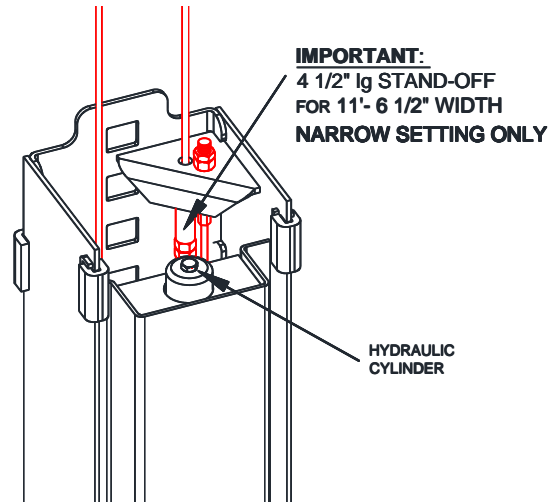

Fig 6a – Cable Assembly
- 18) Attach one end of synchronizing cable to carriage with the supplied nut and jam nut. See **Fig 6a & 6b** for proper attachment.
- 19) Route cable up and over sheave in overhead. Follow across to other sheave on opposite column. Route down through carriage to sheave in bottom of column. Route under sheave and up to cable attachment. Use **Fig 6a** for proper attachment.
Insure that the top of the hydraulic cylinder is out of the way but still retained in the opening of the top plate of the carriage as shown in Fig 6a.